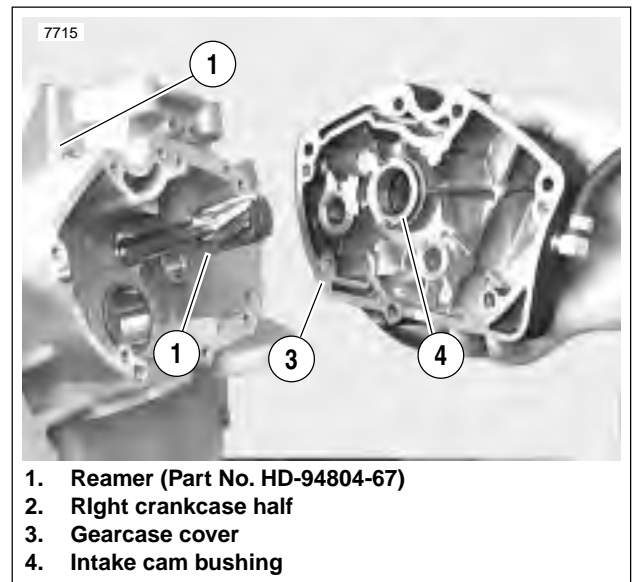

Figure 3-113. Line Reaming Intake Camshaft Bushing
2. See Figure 3-113. Identify the previously reamed intake cam gear bushing in right crankcase half, which has been disassembled from left crankcase half. Insert the shank end of INTAKE CAMSHAFT BUSHING REAMER (Part No. HD-94804-67) through gearcase side of this bushing.